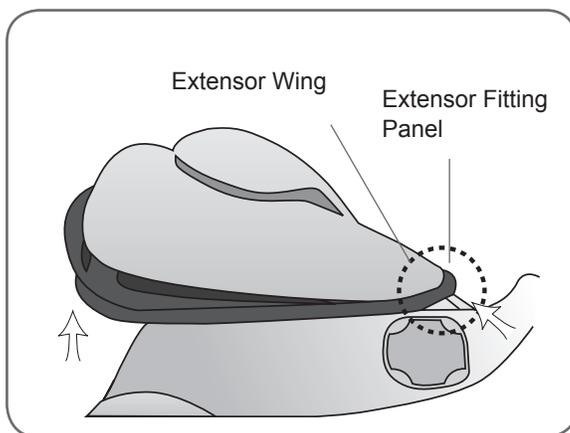

Figure 6-17: Placement of the extensor fitting panel.
2. With the Orthosis wing opened, align the narrow end of the extensor fitting panel with the narrow end of the extensor wing. See Figure 6-17. Make sure the lip of the fitting panel rests outside of the wing.